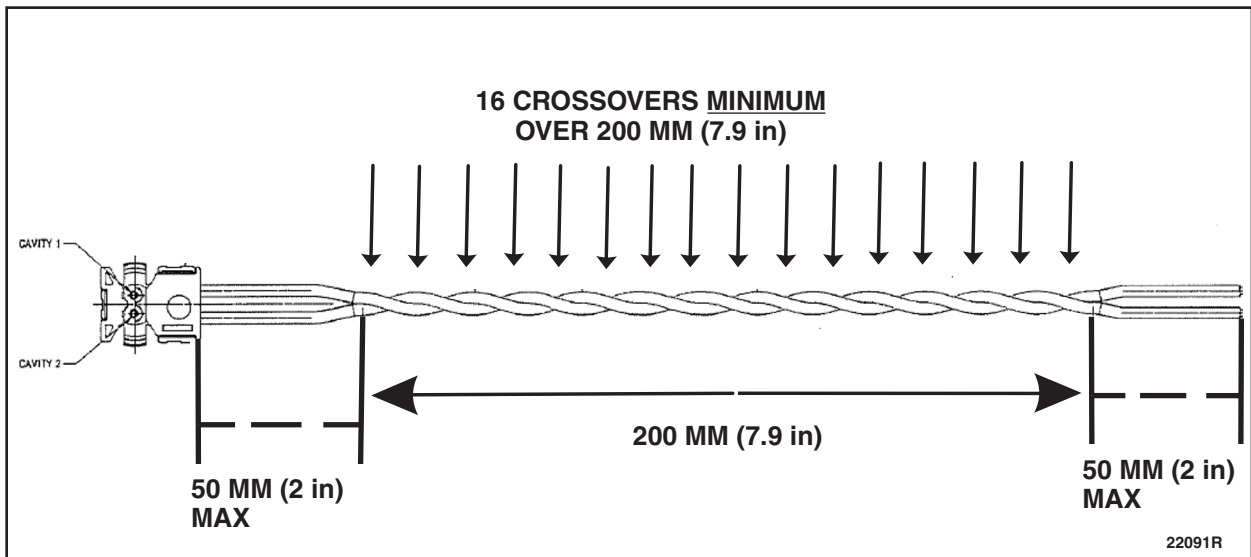

FIGURE 11
10. Using one hand, hold/pinch the wires at the back of the pigtail connector to prevent stress on terminals during the twisting process. Using your other hand, twist the circuits together so there are a MINIMUM of 4 crossovers every 50 mm (2 in) for 200 mm (7.9 in). 16 crossovers minimum required. Extra twists/crossovers are acceptable. See Figure 11.